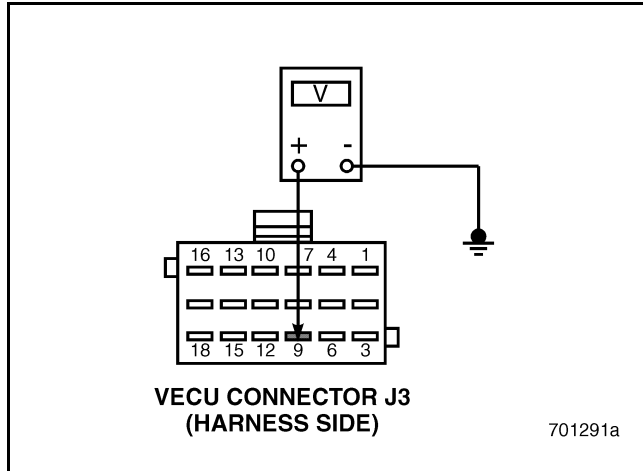

Figure 579
4. Measure the voltage between VECU connector J3 pin 9 and a good ground (see Figure 579).